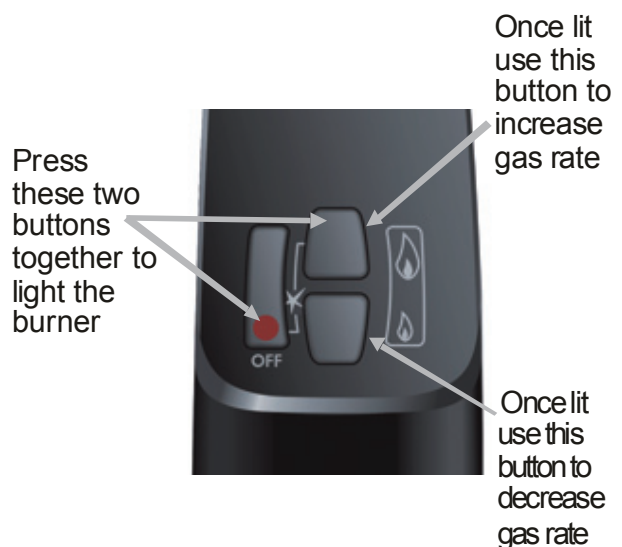

Figure 13 – Total Control Handset
4. To adjust the gas rate to desired setting press the 🔥 (large flame) to increase the flame height or 🔥 (small flame) to decrease the flame height on the handset (see **Figure 13**).